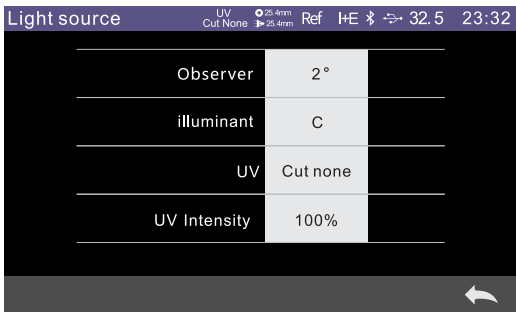

Figure 22 Light source settings
- (6) Lens: the lens position of the current system;
- (7) Sample measurement type: the measurement method set by the current system includes reflection, transmission, haze and opacity .
- (8) Sample measurement mode: it is able to choose SCI, SCE, or I + E , If set only SCI or SCE , the switch cannot be performed
- (9) Display mode: click  or  to switch the current mode of data display. Opacity measurement mode : click  or  to switch for data display.
- (10) Name of standard sample: showing the name of the current tested sample. Click to modify quickly.
- (11) Switch to sample measurement: click  to enter the sample measurement interface.
- (12) Data switching: click  switch to the previous set of data, click  switch to next set of data.
- (13) Spectrum display : click  to check current spectrum data.
- (14) Color space: by clicking the shortcut key, the current test data can be quickly switched between CIE Lab, CIE XYZ, CIE Yxy, CIE LCh and other color spaces.
- (15) Camera locating: click  to view the position of the object to be measured at the reflective measurement aperture
- (16) Wavelength switch button: Click  or  button to switch the wavelength of the light wave, the reflectance of the sample and the reflectance difference of the tested sample at the interval of 10nm, as shown in Figure 22.
Menu→Light source,Enter the interface as shown in Figure 22, click " ✓ " to confirmation.